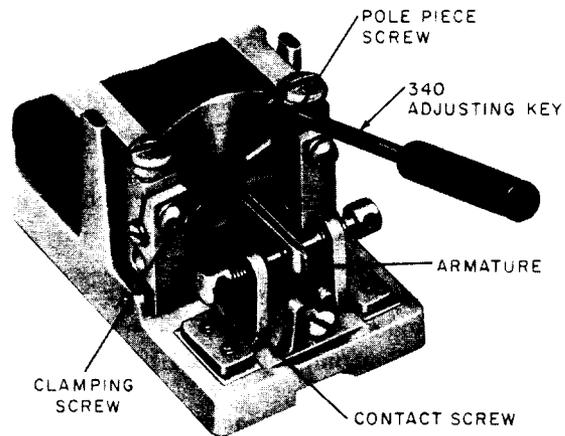

Fig. 8—Method of Adjusting Pole Piece Screws (Old Style Illustrated)
(3) The readjust operate and nonoperate current flow values for this adjustment appear on the first two lines shown on the circuit requirement table. Use the corresponding values in the case of parallel requirements.
(4) Adjust the relay for contact travel as covered in 3.11 and then proceed as follows.
(5) **Preliminary Setting of Pole-Piece Screws:** (Fig. 8)